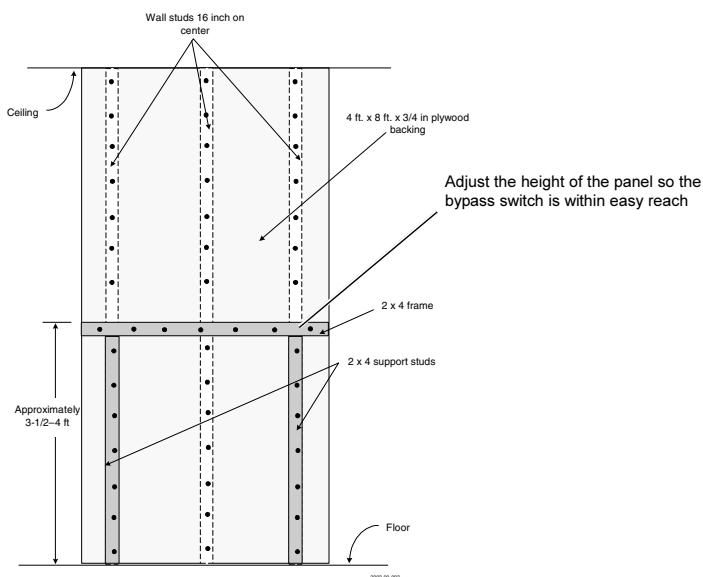

Figure 2
3. Using 2 x 4's, build a frame for holding the Power Panel in place while it is being secured. The top of the frame should be approximately 3-1/2 to 4 feet from the floor. Use 3" x 1/4" lag bolts (on 6" centers) to mount the 2 x 4. Keep all screws at least 3/4" away from the top of the horizontal 2 x 4 to allow the bottom flange of the Power Panel to slip behind it. See Figures 2 and 3.